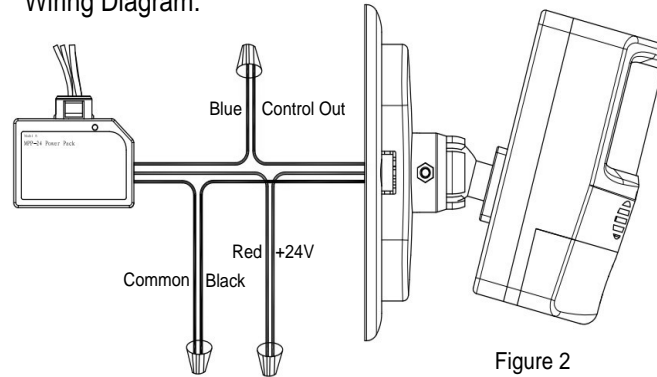

Figure 2
2. Connect lead wires as WIRING DIAGRAM (see Figure 2): Black lead to Common, Red lead to +24V, Blue lead to Control Out.